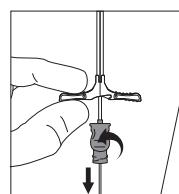

Figure 5
- Holding sheath in place, remove guidewire and dilator as a unit (refer to Figure 5).